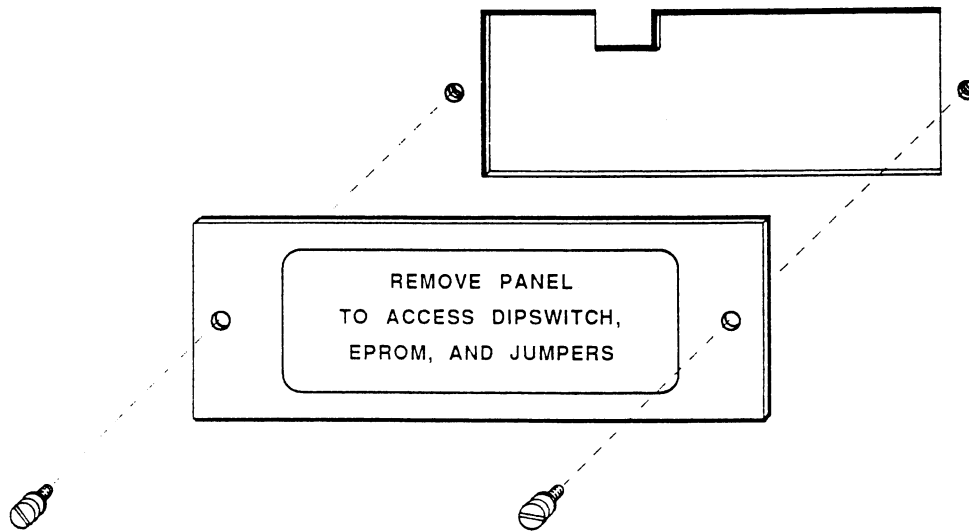

Figure 2-3. Removing the Cover Plate
2. Remove the cover plate from the back panel of the unit by loosening the two screws as shown in Figure 2-3, below. Save all screws and washers.
1. Remove the cover plate from the back panel of the unit by loosening the two screws as shown in Figure 2-3. Save all screws and washers.